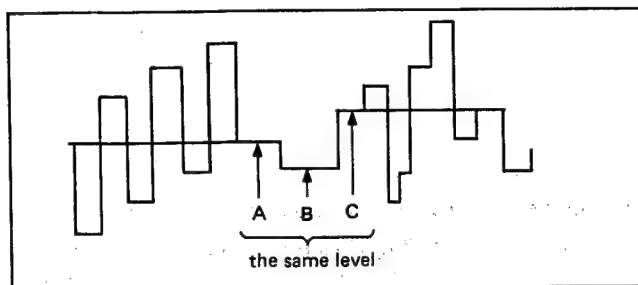

Fig. 19
5. Adjust L617 (SECAM Discrimination) so that the levels A, B and C are same level as shown in Fig. 19.
9. Confirm that the levels A and C are same level as shown in Fig. 19.